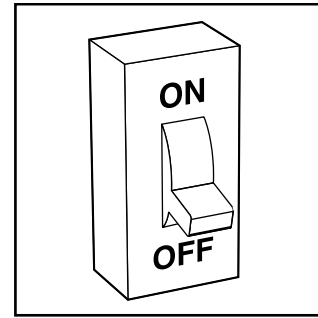

**Fig. 18 - Lowest Temperature Setting**
1. Set your room thermostat to the lowest temperature setting. (See Fig. 18.)